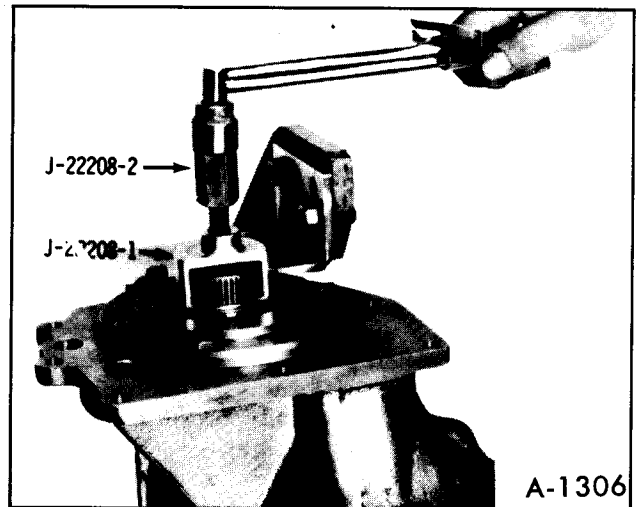

Figure 53—Checking Pinion And Side Bearing Pre-Load
5. Release tension on spreader tool install side bearing caps, and torque cap bolts to 75 ft. lbs., then check pre-load as shown in Figure 53. Pre-load should be 10 to 15 in. lbs. for new bearings, 5 to 7